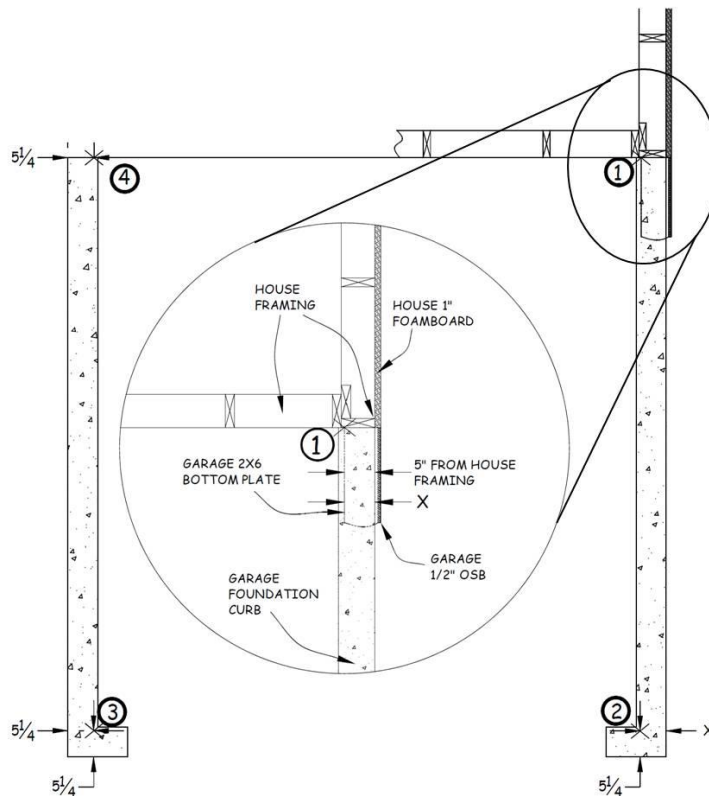

Figure 23-1. Garage Sill Plate Chalk Lines.
3. With an attached garage, at the wall common with the exterior house wall, determine the location of the outside of the house framing, measure 5" in toward the garage interior and make a mark on the curb where it touches the house wall (see Figure 23-1). This establishes Point 1. Measure from Point 1 to the outside of the curb. Establish Point 2 at the other end of the garage wall by measuring that distance in from the outside of the curb, and $5\frac{1}{4}$ " in from the front of the garage curb. Establish Points 3 and 4 as shown in the Figure 23-1.